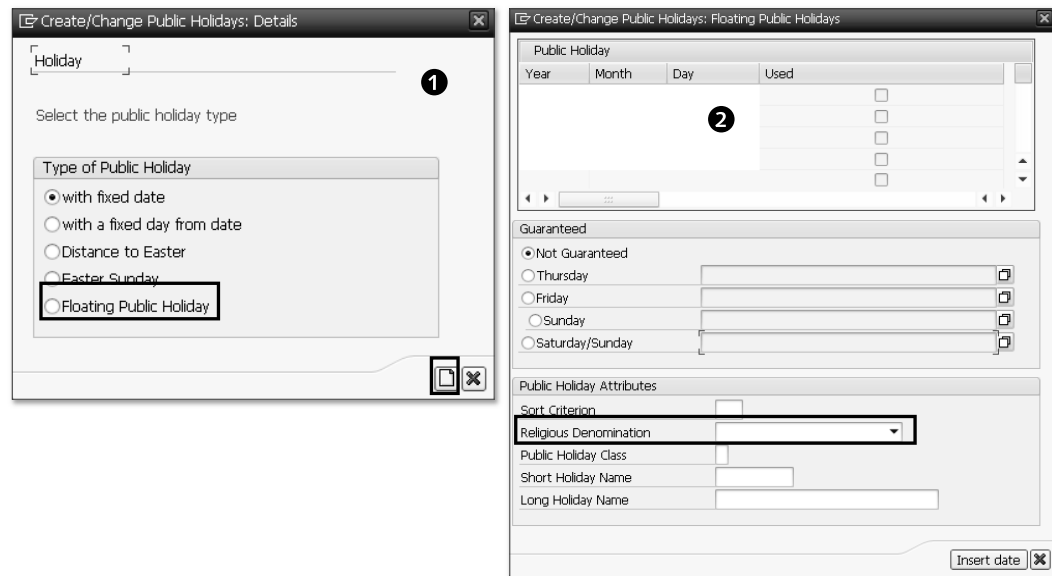

Figure 2.13 Public Holidays
Select the PUBLIC HOLIDAYS radio button shown previously in Figure 2.12, and then choose the CHANGE icon. Select the NEW HOLIDAY icon, so you can then select whether it's a fixed date or a floating public holiday. A floating public holiday depends on factors such as moon sighting to decide the holiday. In Figure 2.13, selecting FLOATING PUBLIC HOLIDAY ❶ leads to the FLOATING PUBLIC HOLIDAYS dialog box ❷, in which you can choose the holiday to be any specific date, day, or even with religious denominations, such as Buddhist, Christian, Islamic, or Jewish calendars.